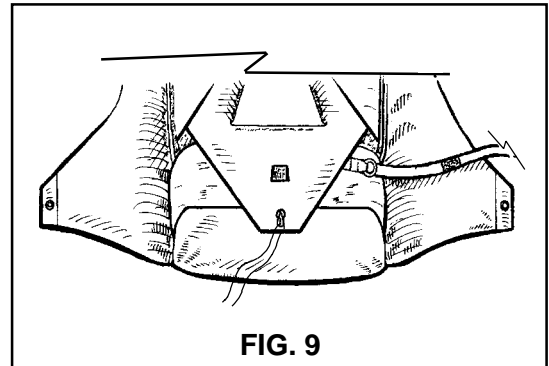

FIG. 9
12. Close the top flap, keeping the bridle to the right (**FIG. 9**).